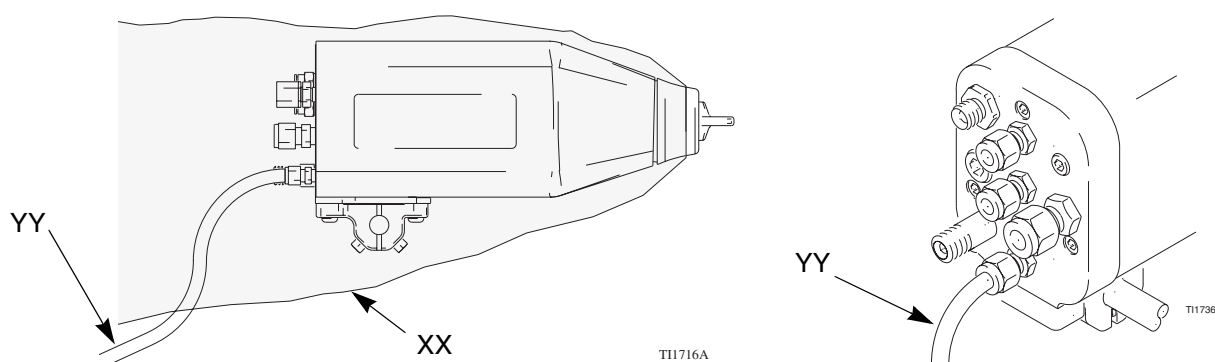

Fig. 9. Fabric Cover
1. Install a fabric cover (XX) over the front of the gun and slide it back to cover the exposed tubing and hoses at the back of the manifold. See FIG. 9..
2. Route the exhaust tube (YY) outside the cover. This enables you to monitor the exhaust tube for the presence of any paint or solvent. See **Check for Fluid Leakage** on page 28. Strap down the exhaust tube to prevent it from moving around.